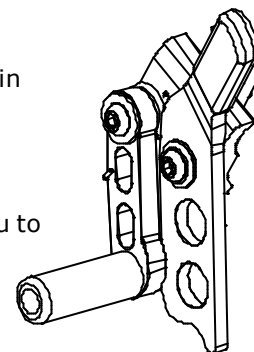

Figure 1
1. When the high brakes are delivered to you they are assembled as shown in figure 1. Before you start to assemble the brakes you should check that the spring (8) is not trapped between the clamp (5) and the spacer (7). If it is trapped, you should reposition the spring round the spacer.